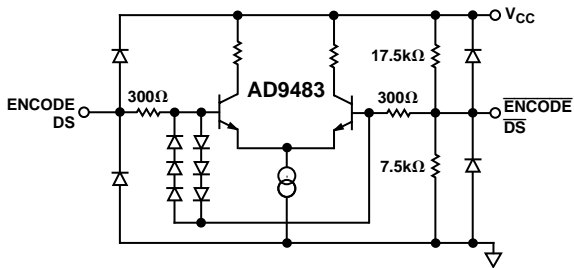

Figure 5. Equivalent Encode and Data Select Input Circuit
ENCODE and Data Select (DS) can be driven differentially or single-ended. For single-ended operation, the complement inputs ( $\overline{\text{ENCODE}}$ ,  $\overline{\text{DS}}$ ) are internally biased to VDD/3 (~1.5 V) by a high impedance on-chip resistor divider (Figure 5), but they may be externally driven to establish an alternate threshold if desired. A 0.1  $\mu\text{F}$  decoupling capacitor to ground is sufficient to maintain a threshold appropriate for TTL or CMOS logic.
Note the 6-diode clock input protection circuitry in Figure 5. This limits the differential input voltage to  $\pm 2.1$  V. When the diodes turn on, current is limited by the 300  $\Omega$  series resistor. Exceeding 2.1 V across the differential inputs will have no impact on the performance of the converter, but be aware of the clock signal distortion that may be produced by the nonlinear impedance at the converter.